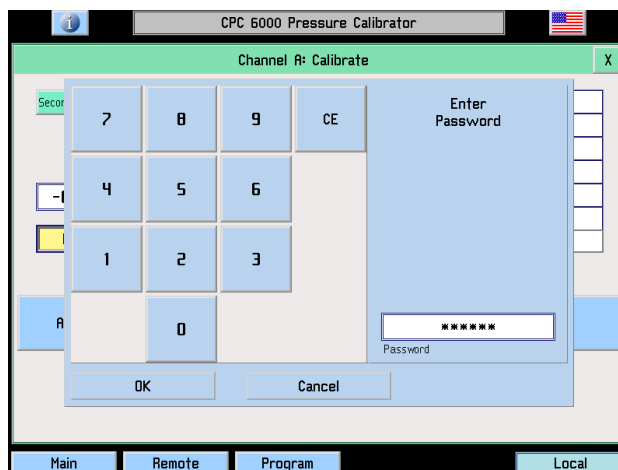

Figure 10.6.1B - 'Enter Password' Window
2. Touch the [Unlock] key to display the Enter Password window as shown in Figure 10.6.1B.